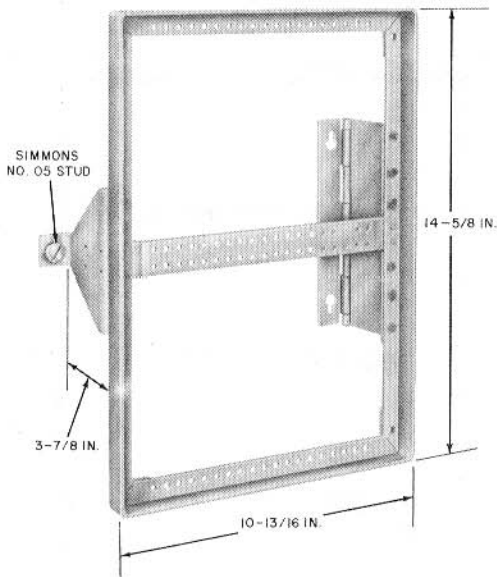

Fig. 8—31A (MD) Apparatus Mounting
**3.05** The 31A (MD) apparatus mounting (Fig. 8) is a hinged metal framework approximately twice the size of a 15A apparatus mounting. It is primarily used to mount panel-type 200-series KTUs, mounts on a 173B backboard, and may be enclosed with a 116A cover. The 31A (MD) apparatus mounting framework, less welded hinge and quick fastener details, is obtainable as an 811331131 (P-13C113) frame assembly and may be mounted singly or in pairs on 23-inch span frames with the aid of two 813538733 (P-35C873) mounting bars. The 31A (MD) apparatus mounting may also be mounted on a 177A backboard by using a D-179862 kit assembly.